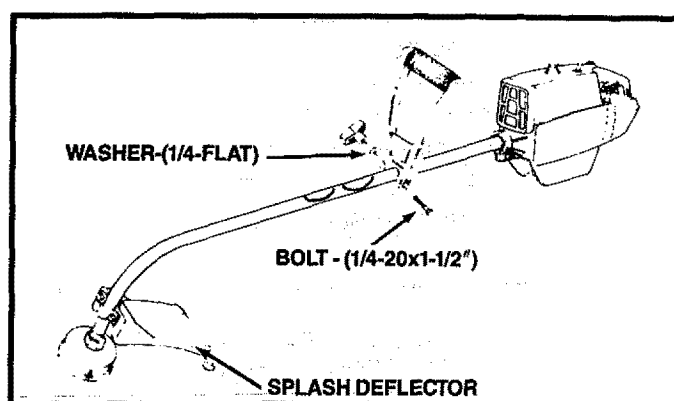

Figure 5
- Make sure the splash deflector is aligned toward the engine as shown in Figure 5.
4. ASSIST HANDLE — Figure 5
- Align the assist handle on the drive shaft housing above the decal(s), making sure the handle curves back toward the engine. Figure 5.
- Install the assist handle bolt, washer, and knob as shown in Figure 5.